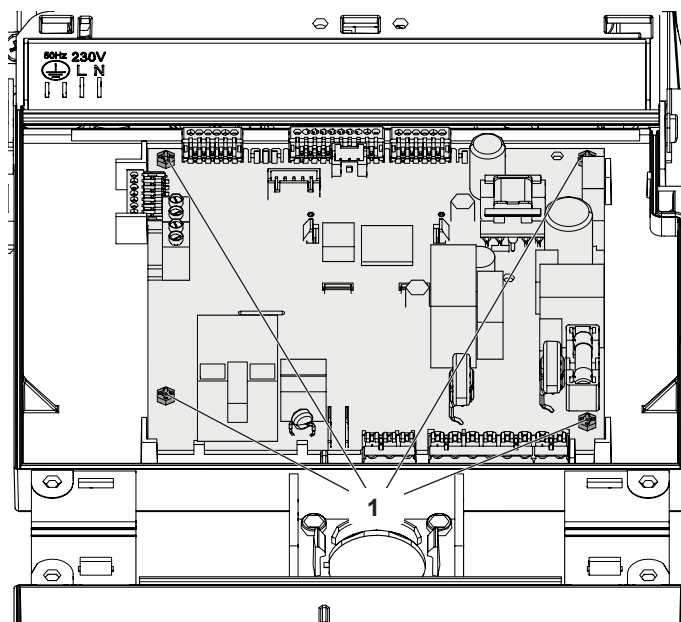

Figure 9.23
- 3 Unscrew the screws "1" (Figure 9.23).